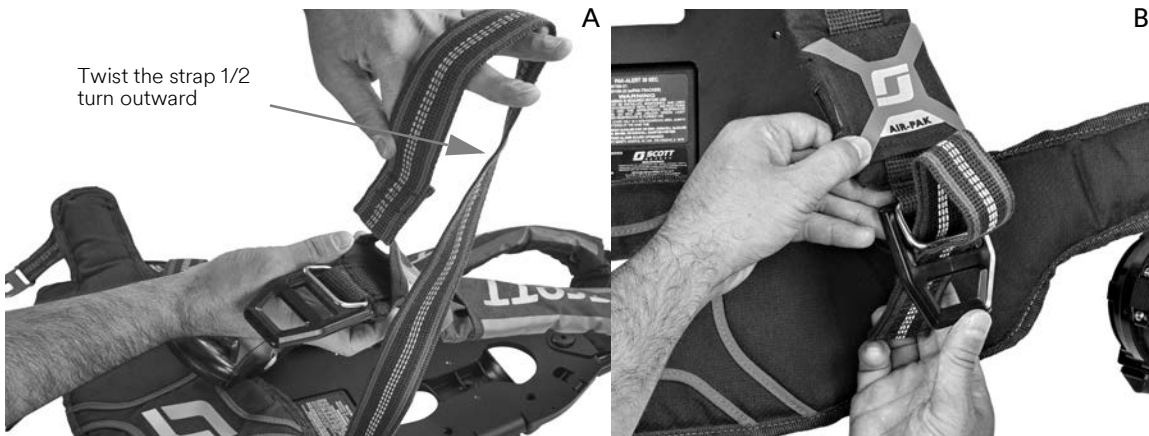

Figure 2-25 Attaching the waist-to-shoulder straps: A) Twisting the strap 1/2 turn. B) Threading the strap through the buckle.
- a Twist the waist-to-shoulder strap 1/2 turn outward (away from the backframe). See picture A in Figure 2-25.
- b Thread the twisted strap through the buckle on the shoulder harness. See picture B in Figure 2-25.